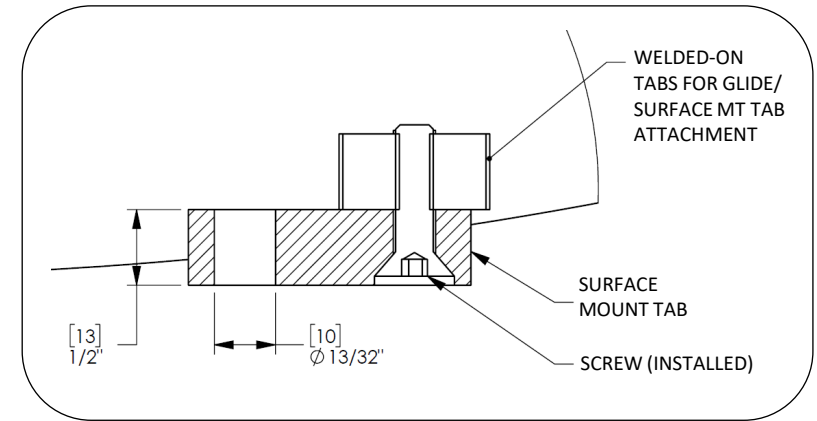

FIG. 2 – ANCHOR TAB SECTION
2. Move unit out of position. Drill holes according to anchor manufacturer's recommendations. Anchors should include enough length for thickness of surface mount tab, see Fig. 2. Clear holes of debris.